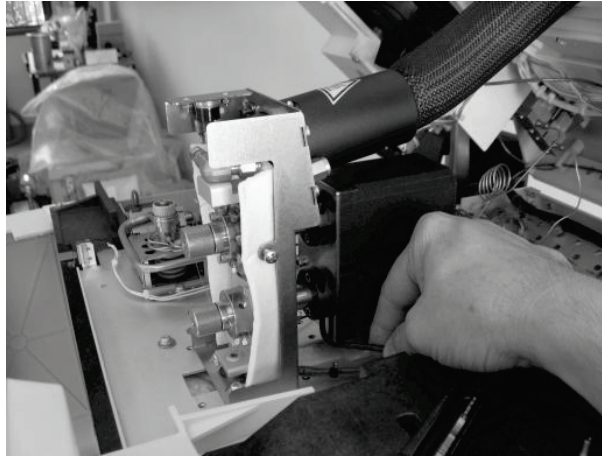

Figure 16 Positioning the GSV assembly on the GC oven
6. Pass the transfer line through the gap in the GC top cover created by removing the compartment cover, and locate the GSV assembly in the appropriate detector position (Figure 16).